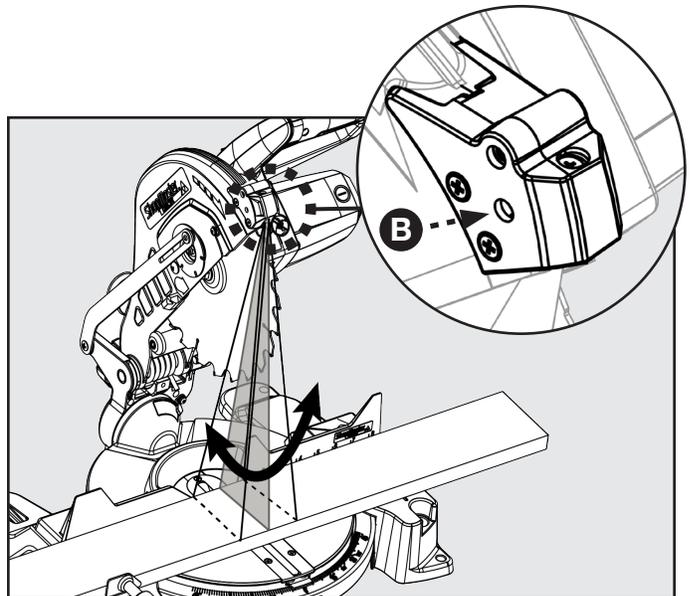

FIGURE 23
If you notice the laser line does not remain parallel to the blade as the saw head is lowered to make a cut refer to Figure 23 and follow these instructions: using a Phillips head screwdriver turn the screw (B) to adjust the vertical angle of the laser.